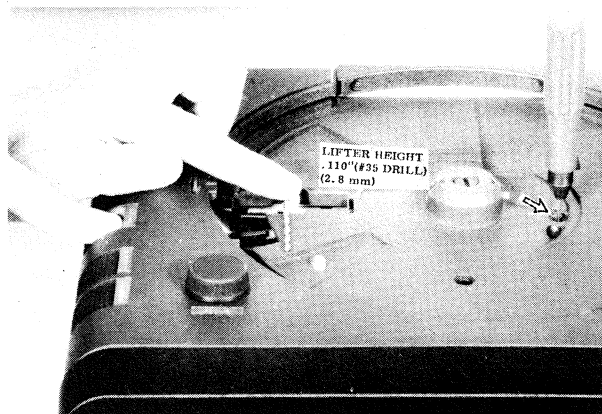

Figure 3-13. EXTERNAL ADJUSTMENT LOCATIONS
5. Lay a #35 drill (.110" or 2.8mm diameter) along the outside edge of the slide pad and compare the height (Figure 3-13).